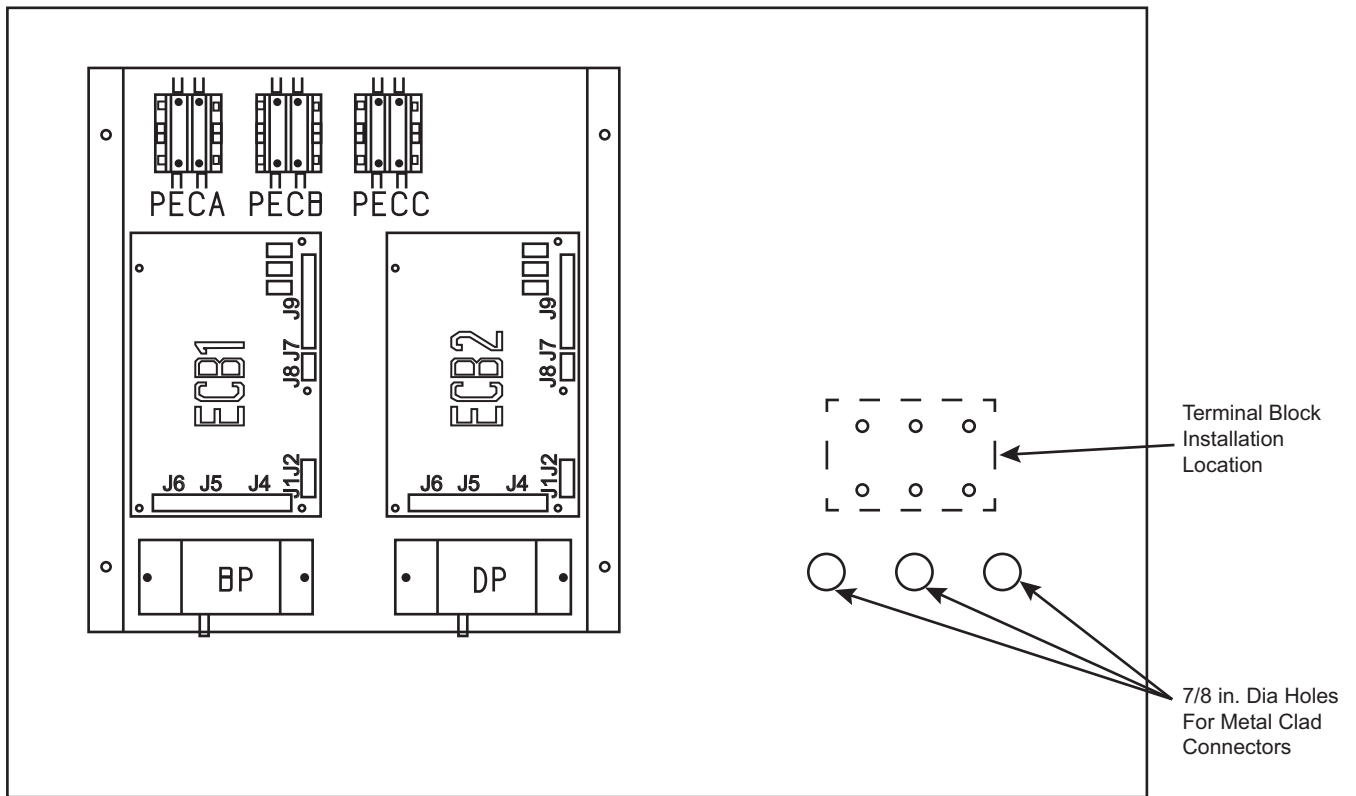

Fig. 3 — Auxiliary Control Box for 48/50A Units
4. Open the unit filter access door. Remove the panel below the filters that cover the auxiliary control panel. See Fig. 2 for auxiliary panel location. **NOTE: The following statement is valid for A-series only.** Mount the auxiliary control panel terminal block in the auxiliary control box; in the location shown in Fig. 3.
5. Route the wires from the 20 ft long power exhaust control and power harnesses through the hole(s) in the auxiliary control panel. See Fig. 3 or 4 for terminal block and harness locations. Secure the metal clad connector with the locknut.
5. Open the unit filter access door. Remove the panel below the filters that cover the auxiliary control panel. **NOTE: The following statement is valid for A-series only.** Mount the auxiliary control panel terminal block in the auxiliary control box, in the location shown in Fig. 3.
6. Route the wires from the 20 ft long power exhaust control and power harnesses through the hole(s) in the auxiliary control panel. See Fig. 3 or 4 for terminal block and harness locations. Secure the metal clad connector with the locknut.